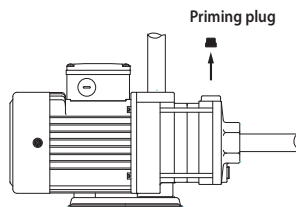

Fig.2
- 3.1.1.2 Remove the priming plug, fig. 2.